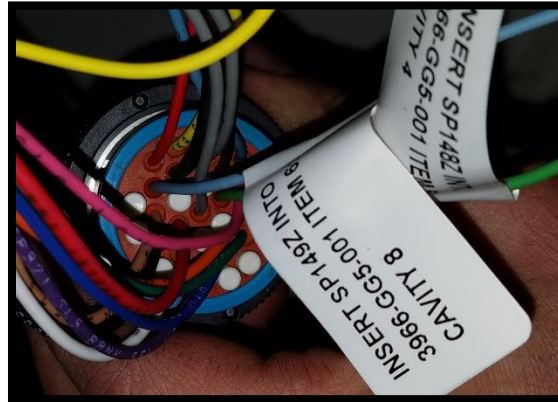
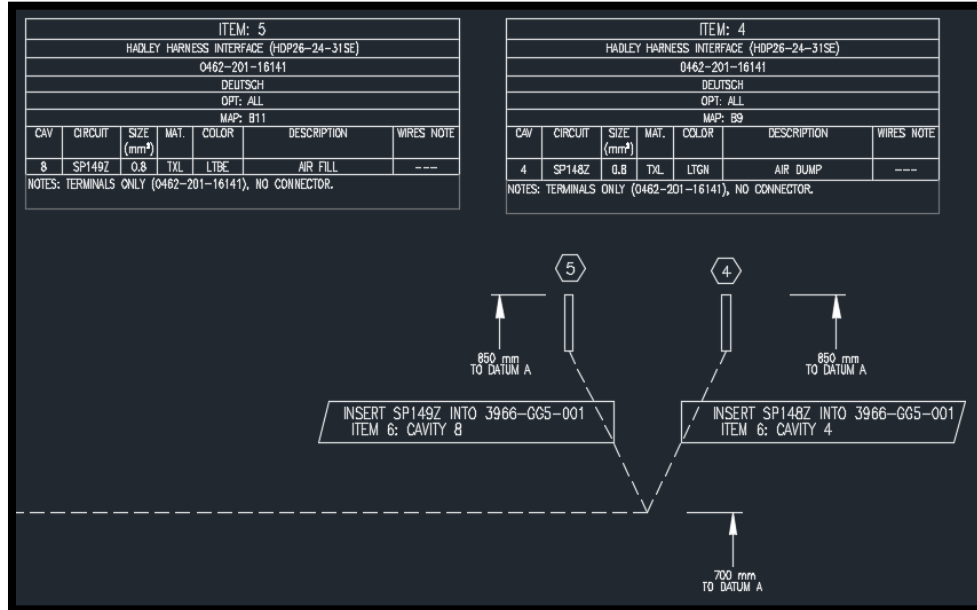

FIG. 5-1
FIG. 5-2
- 13. Insert Deutsch Socket, circuit SP148Z (LTGN-18GA) into Hadley RV Interface (Item #6) cavity 4. Refer to FIG. 5-1 and FIG. 5-2.